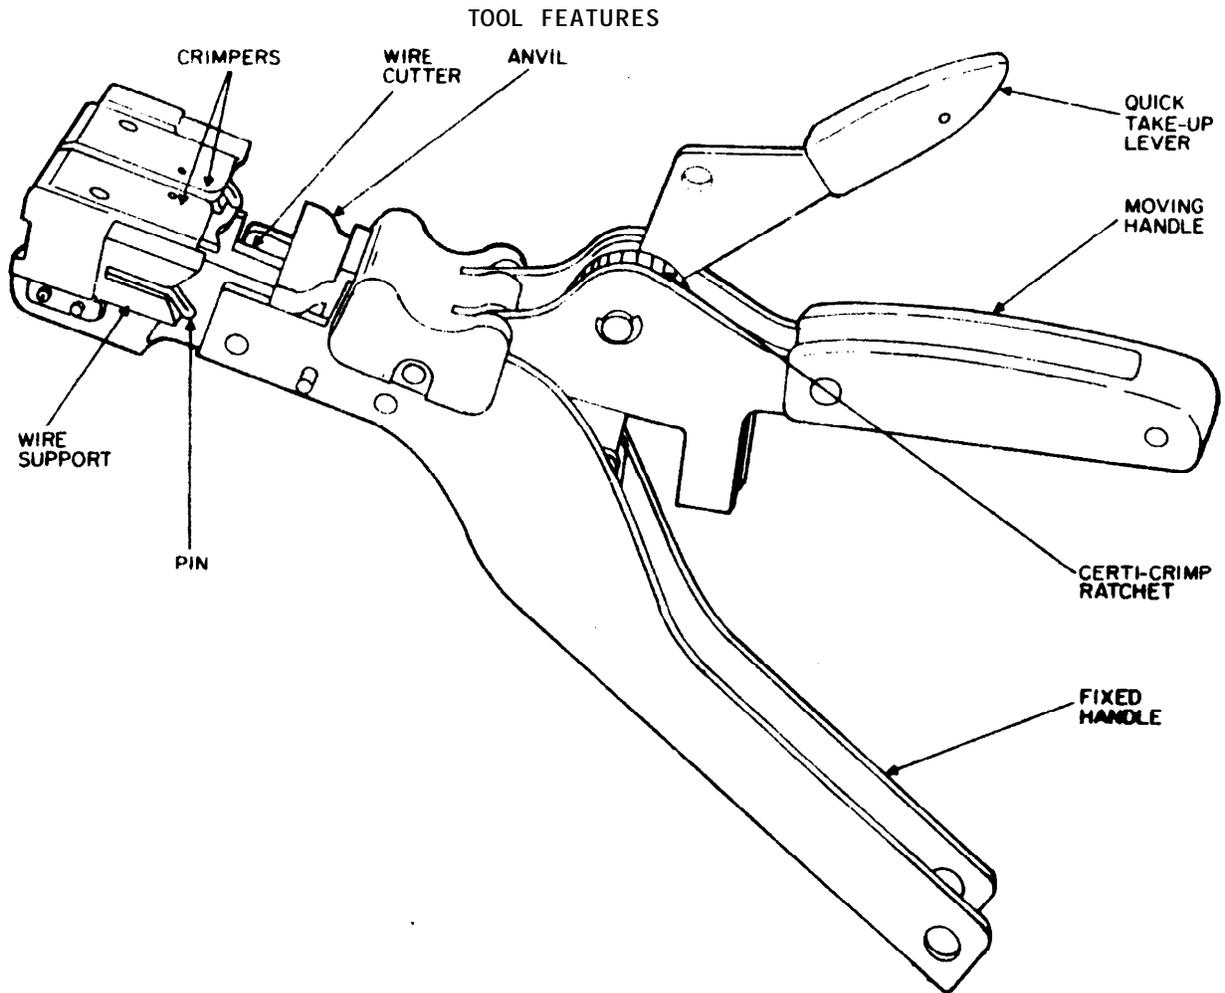

Figure 1. A-MP VS-3 Crimping Tool
1.01 This section is issued to present the approved procedure to be followed when splicing switchboard cable using the A-MP VS-3 tool (Figure 1) and Picabond TM connectors.
3.01 The VS-3 tool applies the Picabond connectors to the wires to be spliced by crimping them between a set of dies. The moving die is called the Anvil and the fixed die, which is in two parts, the Crimpers. A wire cutter is attached to the anvil. When the tool cycles, the cutter passes through the slot between the crimpers where it shears off the excess wire. The wire supports on the outer sides of the crimpers hold the wires in the correct location to assure their proper placement in the connector. See Figure 1.